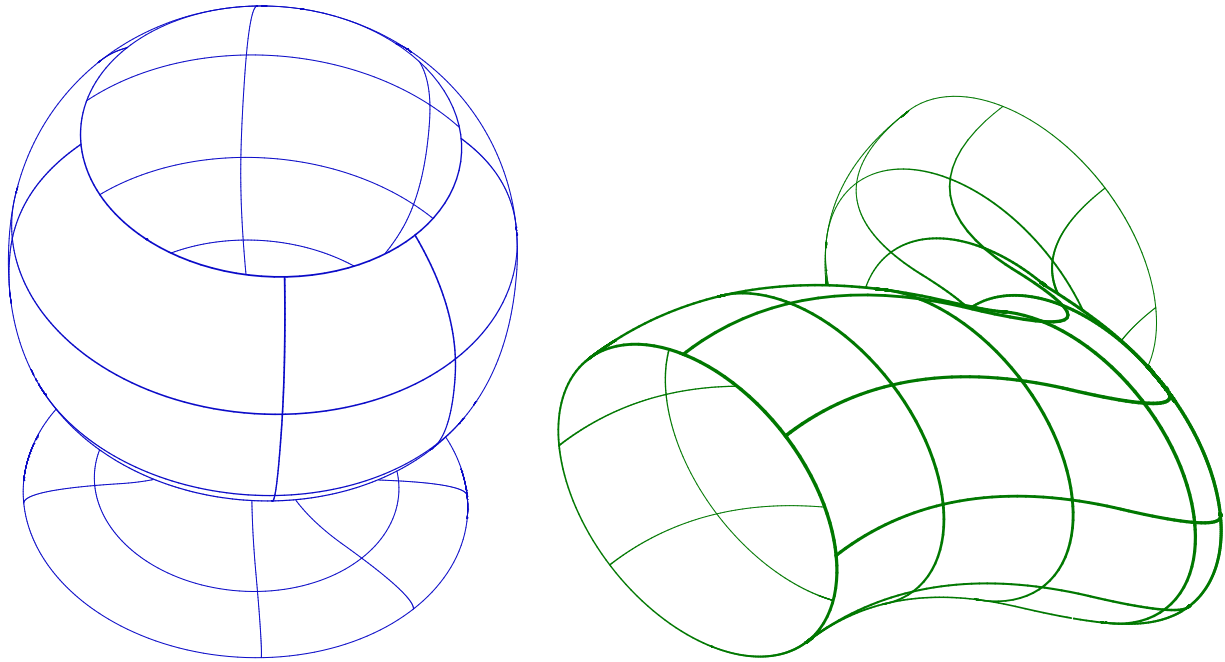

Figure 139: Some examples of the use of hidden curve removal tool, *ihidden*, to remove hidden curves.
*ihidden* is a program to remove hidden curves from a given surface model. Only freeform objects are processed in *ihidden*. See Figure 139 for some output examples which use this tool.
The images in Figure 139 were created using the following commands: